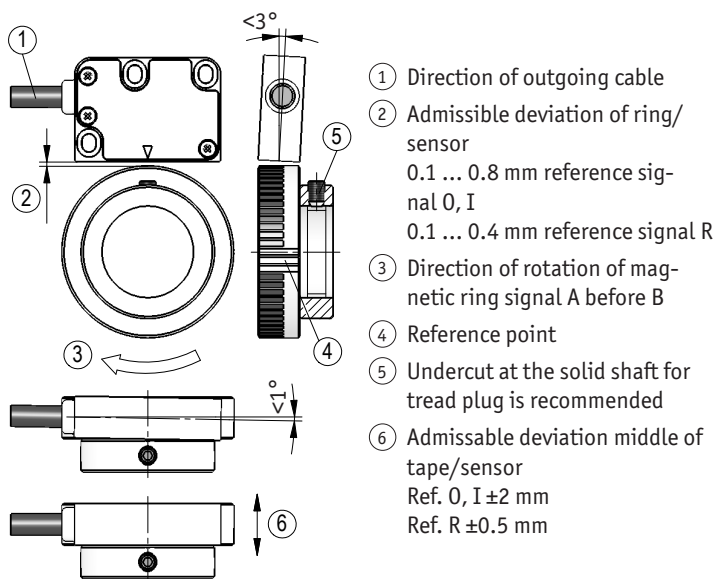

Fig. 8: Definition of the counting direction with magnetic ring and assemblage sensor/magnetic ring, gap measure, tolerances
3. Provide for a relief groove in the solid shaft (see Fig. 8).
- The distance tolerances were not observed over the whole measuring length (see Fig. 6, Fig. 8).
- The magnetic sensor has been mounted with the active side turned away from the band (see Fig. 6, Fig. 8).
- Magnetic sensor has not been aligned according to Fig. 6, Fig. 8.